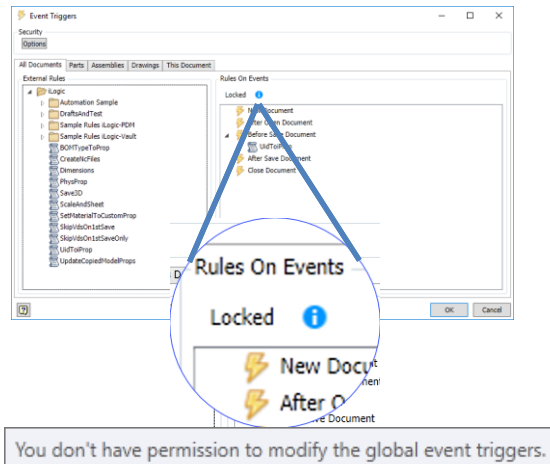

Figure 4
- Restrict the change of settings to CAD Administrators or iLogic Rule Authors (Figure 4)